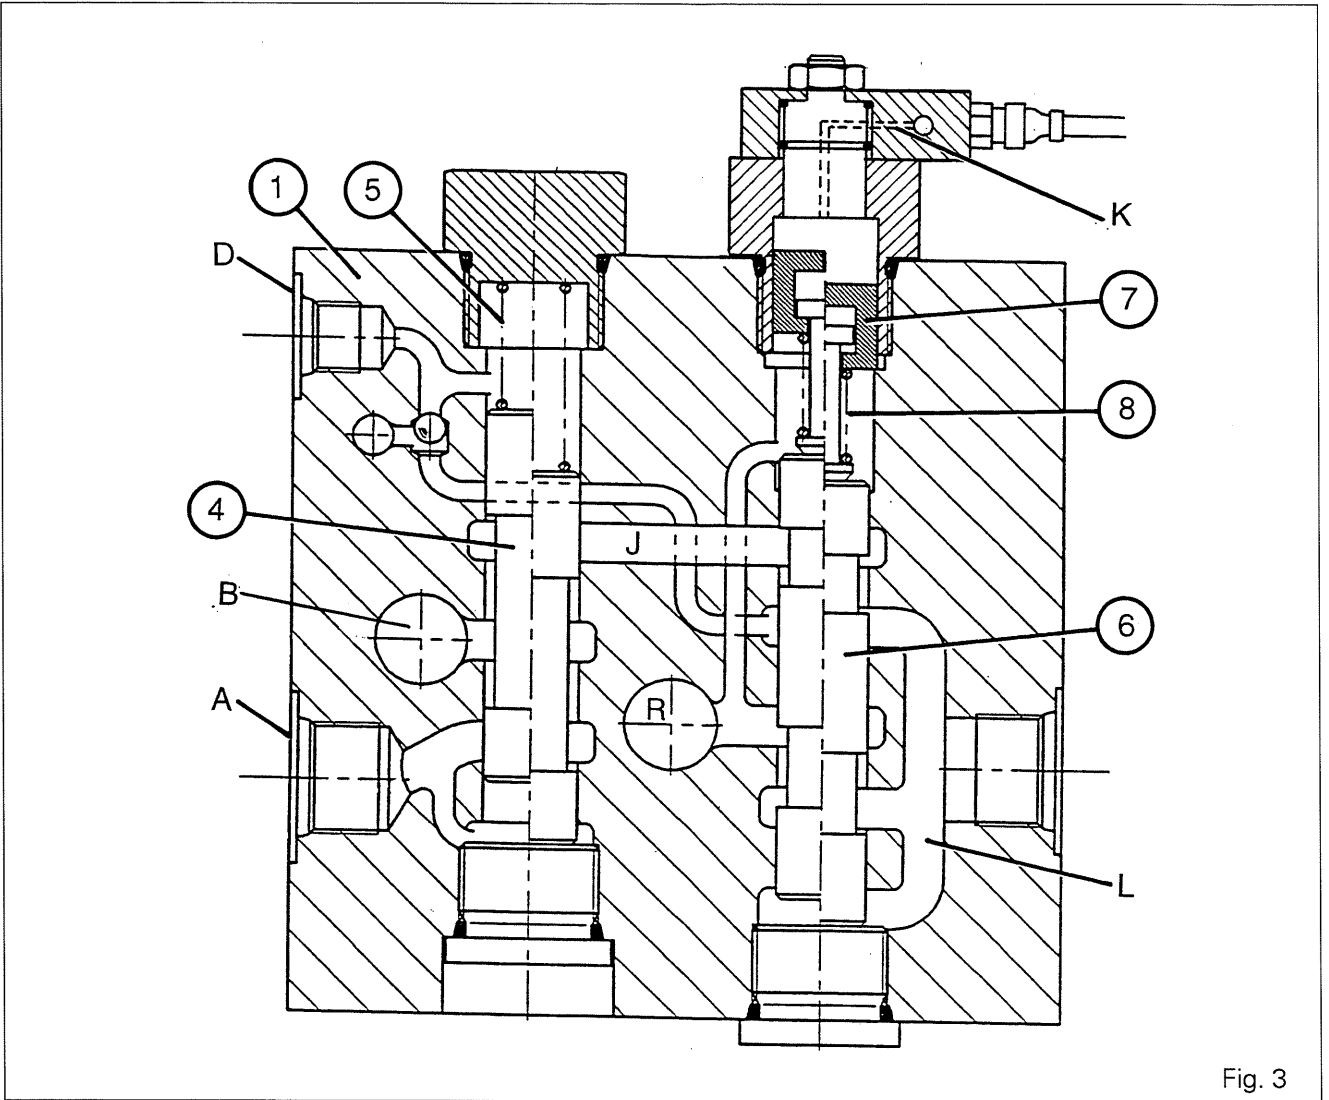

Fig. 3
### Steering priority spool (4) (Fig. 3)
### Trailer braking spool (6) (Fig. 3)